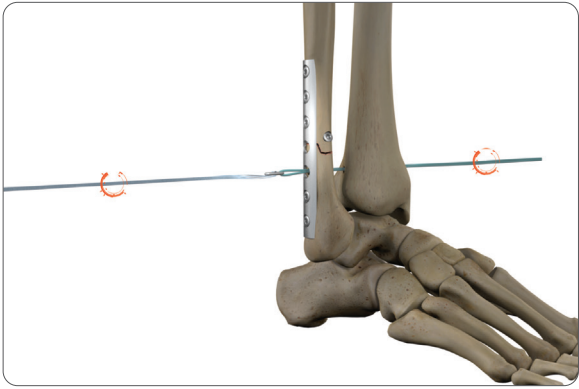

Figure 4. Establish lateral tension by holding in the locations indicated
5. Establish tension by holding the suture tape between the lateral and medial buttons (**Figure 4**). In a continuous motion, pull on the passing suture medially to advance the medial button until it exits the tibia.